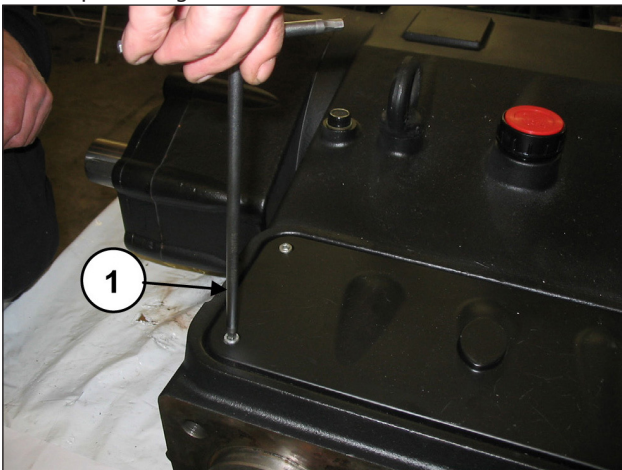

Fig. 112
Remove the upper inspection cover, unscrewing the 4 fixing screws (pos. ①, Fig. 112).